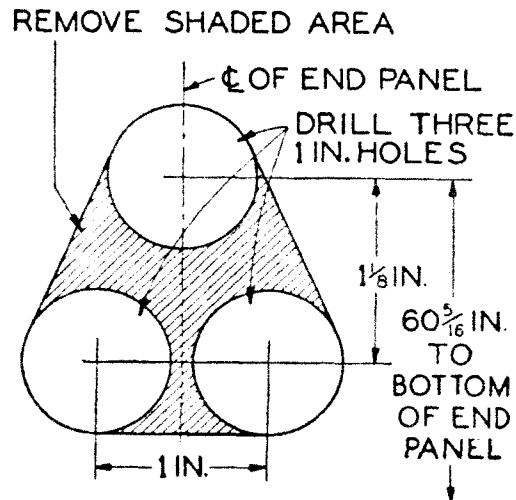

Fig. 11—Hole for 2D Fixture
8.03 At existing installations, drill a 1-inch hole for the 2B light fixture. If a 2D fixture is used, follow the instructions in Fig. 11 in order to cut a hole large enough to permit passage of the plug and the 90-degree connector attached to the cable. Remove end panel to facilitate drilling and cutting.